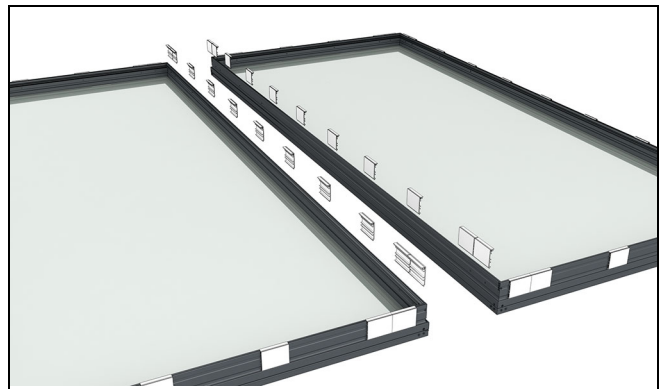
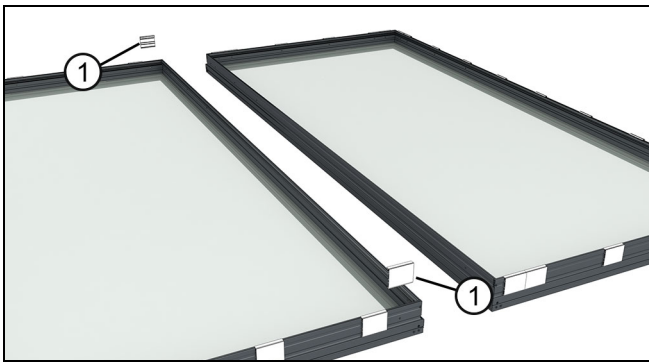

Figure 34
Figure 35
4. Remove any shim blocks along the mulls. Also remove shim blocks from the top and bottom corners adjacent to the mull on units that do not have the steel attached to first (in this case, the A2 unit). See Figure 34 and Figure 35.